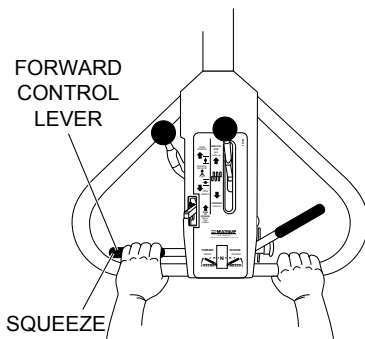

Figure 27. Forward Travel Lever
2. Squeeze the **left** travel lever (Figure 27) to move roller in a **forward direction**. Squeezing the lever all the way towards the operator will achieve maximum speed. Use a smooth squeezing action on the drive control lever to prevent abrupt takeoffs.